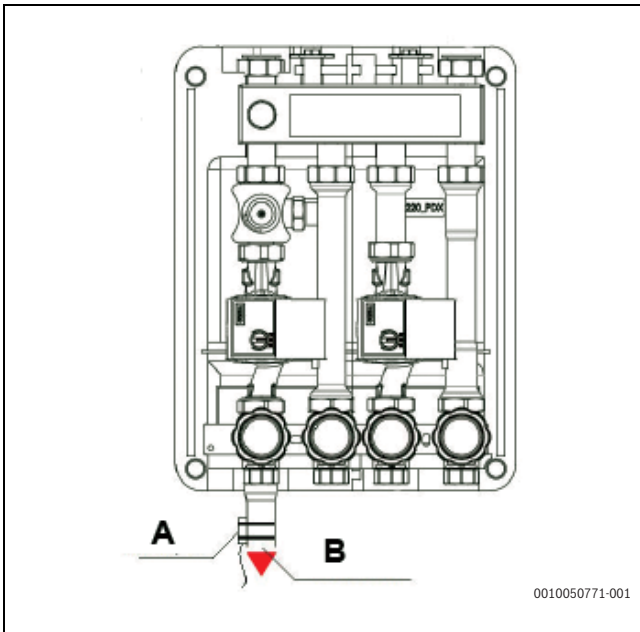

Fig. 25 Position the Tw2 temperature probe
Position the Tw2 temperature probe (contained with in the kit) T1BX - T1B30X (supplied separately), in the delivery pipe of the low temperature zone (→ Fig. 25) using the pipe clamps.
Follow the instructions → Fig. 25
- ▶ Coupling the inserts (2 or 3 in function of the T-Box model), (→ Fig. 25).